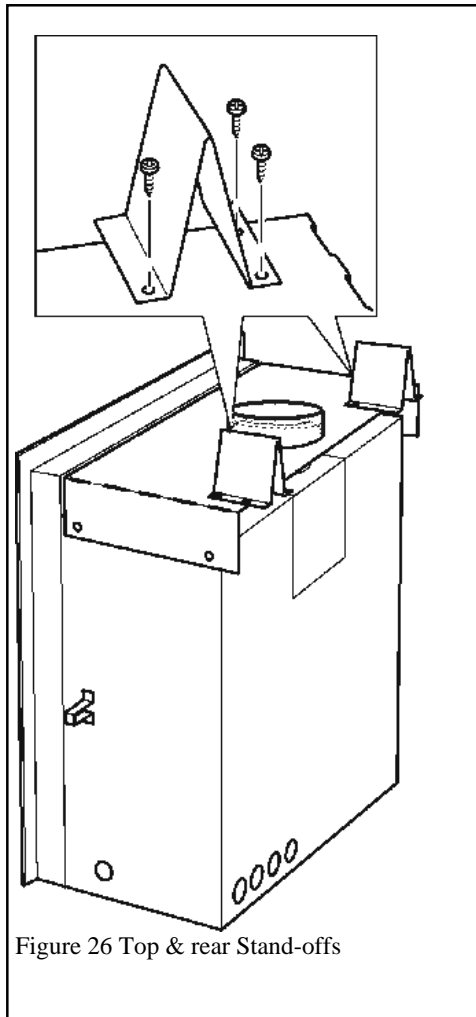

Figure 26 Top & rear Stand-offs
6. Bend the two top rear stand-offs and fit to the heat shield with three screws each – see figure 26.